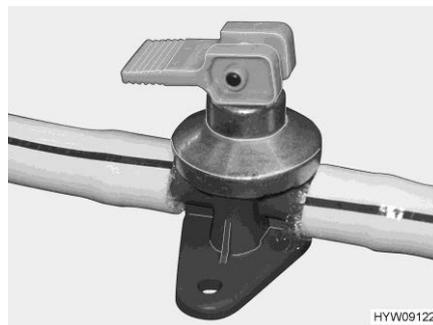
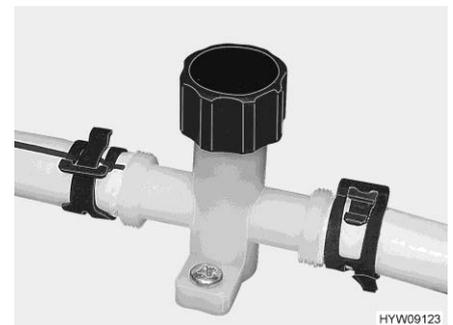

Fig. 140 Drain cock with rocking lever
Fig. 141 Drain cock with knob
- Close all drain cocks (Fig. 140 or Fig. 141).